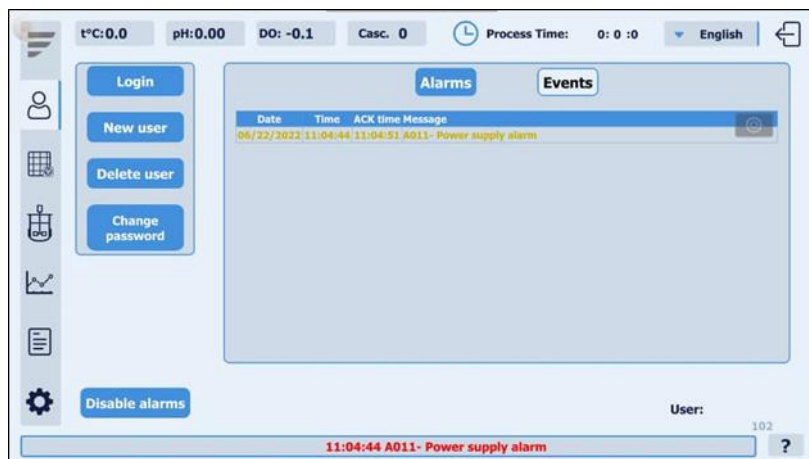

Figure 5.3. Control unit's ADMINISTRATION window
- 3) The MAIN MENU of the bioprocess controller is located on the left-hand side of the user interface (highlighted in 5.2). Press the ADMINISTRATION button, thus opening the ADMINISTRATION window, where the user can log in into the system, see Figure 5.3;